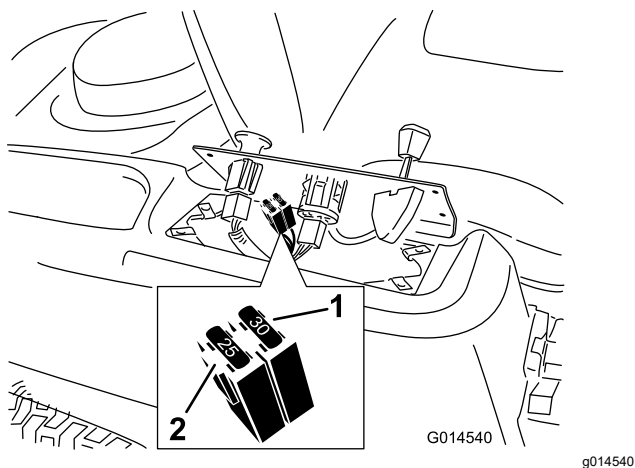

Figure 42
2. Lift the control pane up to access the main wire harness and fuse block (Figure 42).
3. To replace a fuse, pull out the fuse to remove it (Figure 42).